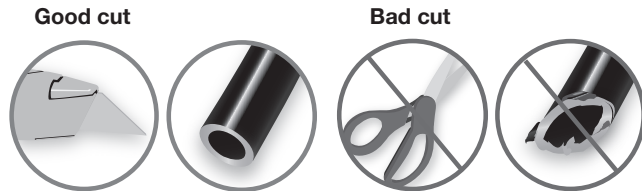

Fig. 13
2. If installing a single-path air line, choose a location for the tee fitting on the wheel well or rear bumper. Determine and cut adequate length of air line (C) to reach to the tee from left and right side air springs. Make clean, square cuts with a razor blade or hose cutter (Fig. 13). Do not use scissors or wire cutters.